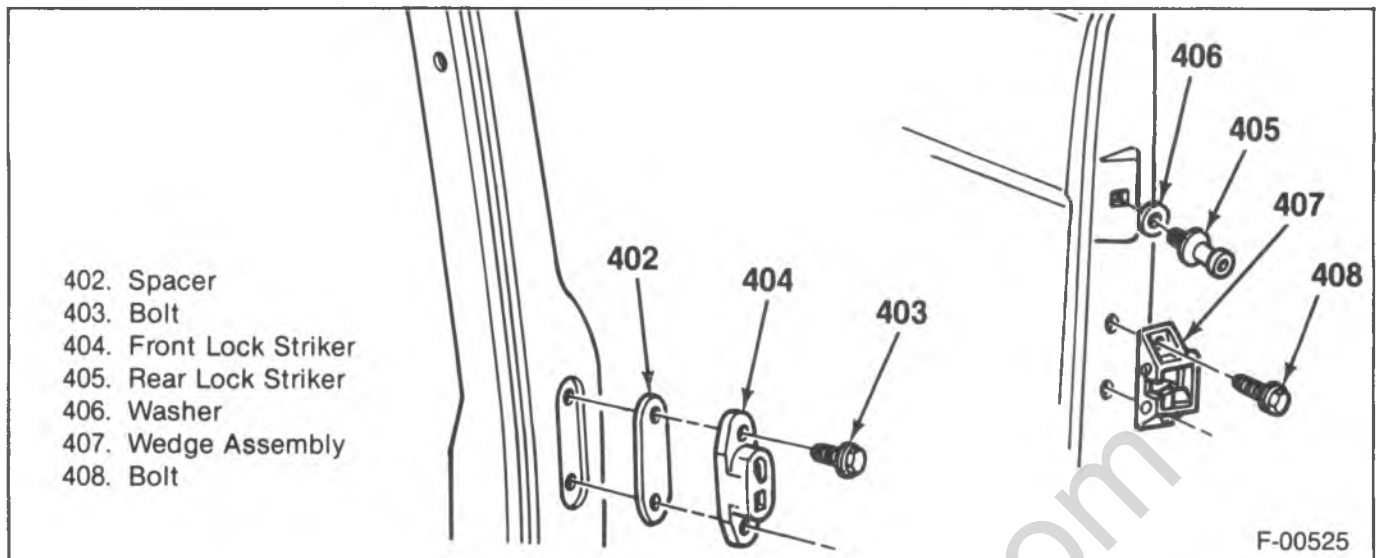

Figure 90—Front and Rear Lock Striker
↔ Remove or Disconnect (Figure 90)
↔ Install or Connect (Figure 90)
IN AND OUT ADJUSTMENT (Figures 90 through 92)
- Remove the front (404) and rear (405) lock strikers (figure 90).
- Install the front (404) and rear (405) lock strikers at the position previously marked (figure 90).
FRONT STRIKER ADJUSTMENT (Figure 90)
REAR STRIKER ADJUSTMENT (Figure 90)